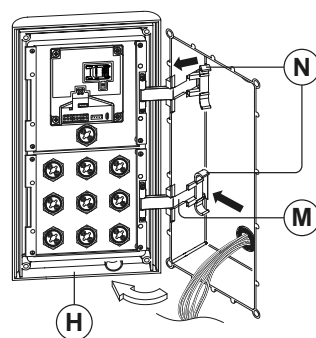

Fig. 70
7. With the front support frame (H) opened out (to allow for easy access to the hinge mounts (M)) take the hinge locks (N) and clip them in place locking into the hinge mounts (M), following the guide arrows as shown in **Fig.70**;